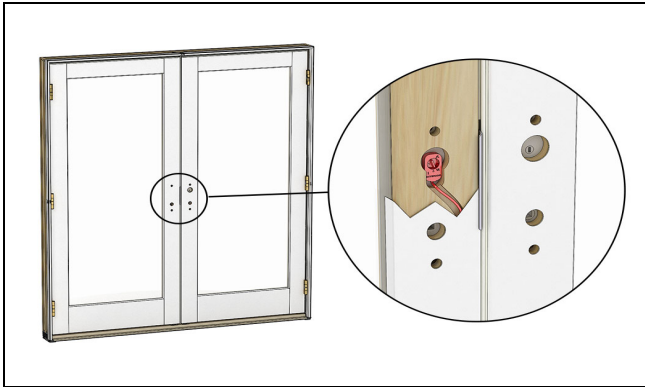

Figure 24 Swinging Door shown with cladding cut away
1. There is one sensor in all the door platforms located under the exterior door handle escutcheon. See Figure 24